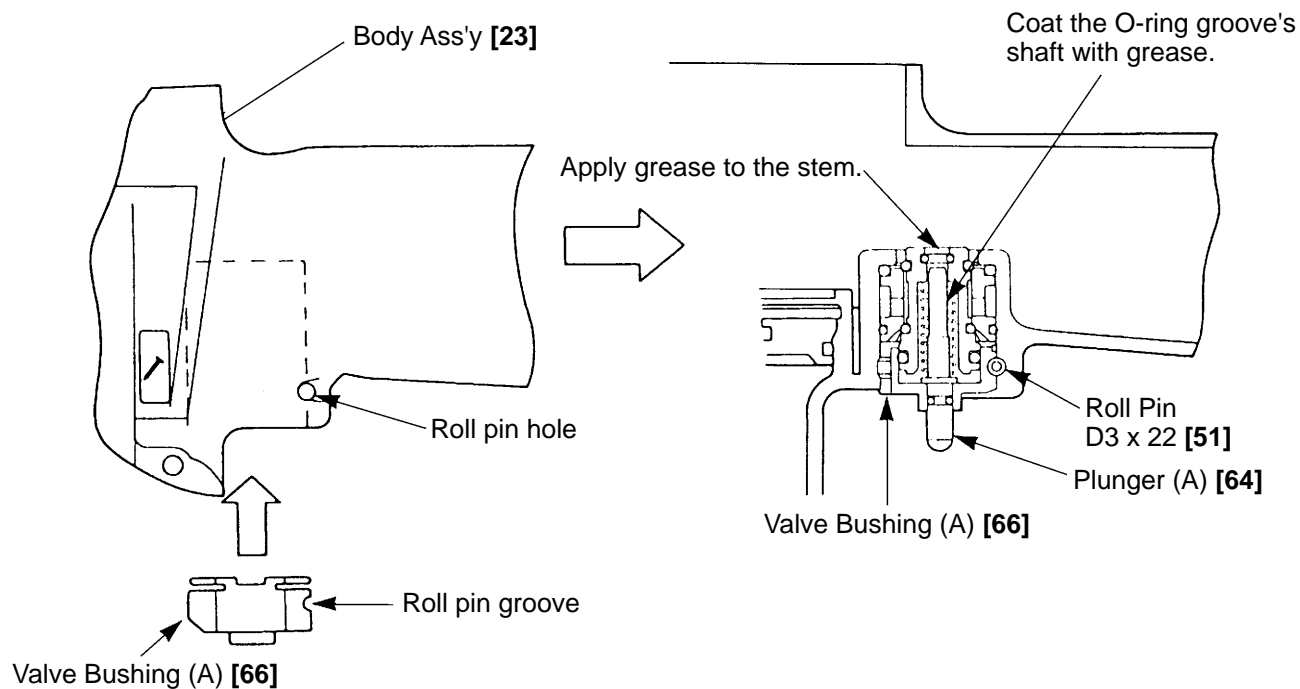

Fig. 9
- Apply sufficient grease to the O-Ring [I.D 1.8 mm] [65] of Plunger (A) [64], the O-Rings [59], [61], [62] on Valve Piston (B) [60] and the stem of Plunger (A) [64] as shown in Fig. 9.
- Install Valve Bushing (A) [66] so that a roll pin groove of Valve Bushing (A) [66] is in alignment with the roll pin hole of the Body Ass'y [23] as indicated in Fig. 9. Then first insert a roll pin driver [3 mm (0.118") dia.] into the roll pin hole and hammer in the Roll Pin D3 x 22 [51] after making sure that it can pass through the groove and hole.